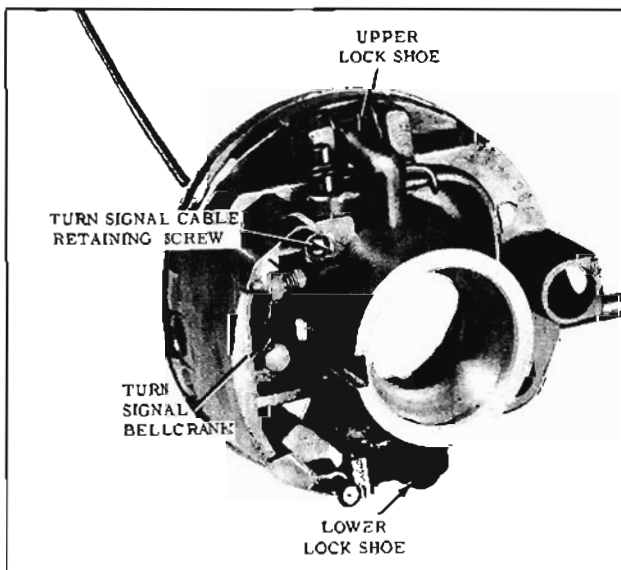

Fig. 8-101 Actuator Housing (Top View)
3. Remove the lock shoes and springs by pushing the upper end of the lock shoe through the openings in the actuator housing. (Fig. 8-101)